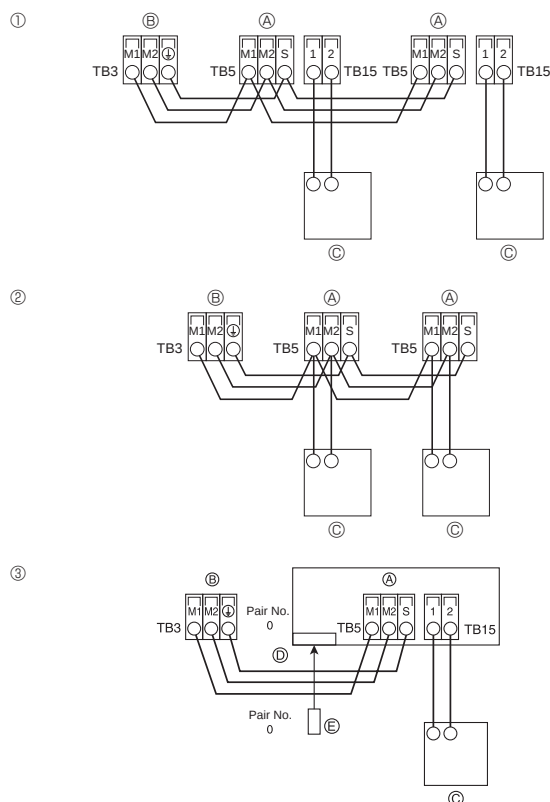
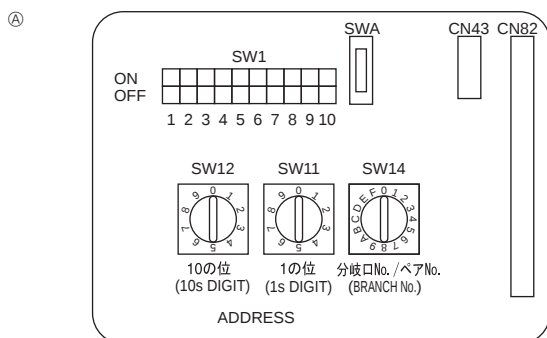

Fig. 6-3
Fig. 6-4
6.4. Connecting remote controller, indoor and outdoor transmission cables (Fig. 6-3)
- ① MA Remote controller
- ② M-NET Remote controller
- ③ Wireless remote controller (When installing wireless signal receiver)
- (A) Terminal block for indoor transmission cable
- (B) Terminal block for outdoor transmission cable(M1(A), M2(B), ⊕(S))
- (C) Remote controller
- (D) Wireless signal receiver
- (E) Wireless remote controller
6.5. Setting addresses (Fig. 6-4)